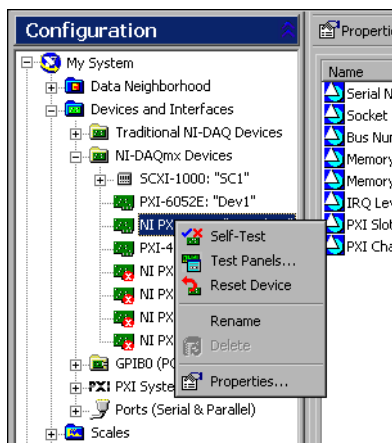

Figure 2. Configuration Tree Shortcut Menu
- a. Right-click the module you want to test and select **Self-Test** (shown in Figure 2).
1. Right-click your module under NI-DAQmx Devices, and select **Test Panels** from the shortcut menu shown in Figure 2.